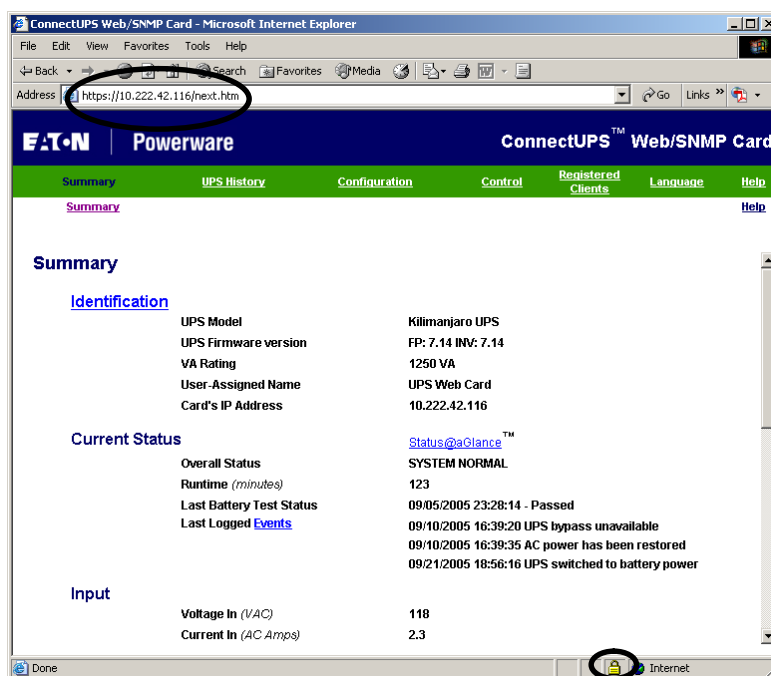

Figure 23. Secure Connection Window
10. To verify that you have accessed a secure server, check the web address to confirm that it begins with "https://" and that a picture of a lock is in the lower right hand corner of the browser's window (see Figure 23).